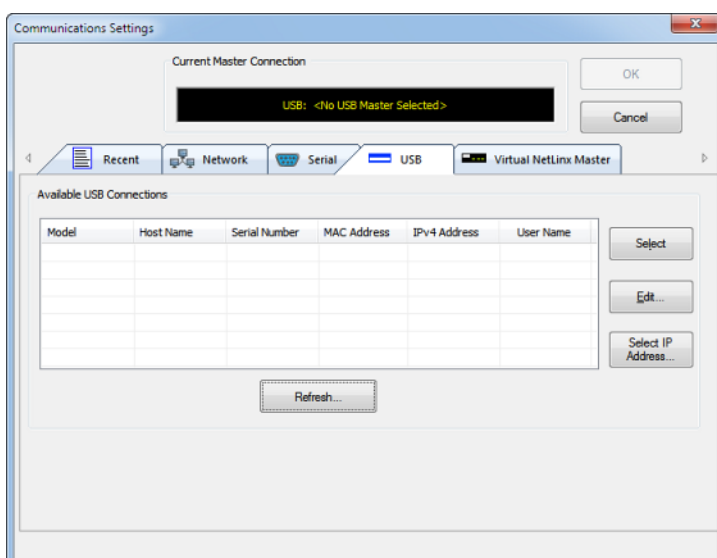

FIG. 6 Communications Settings dialog - USB tab
- Select the **USB** tab to view the USB options (FIG. 6).